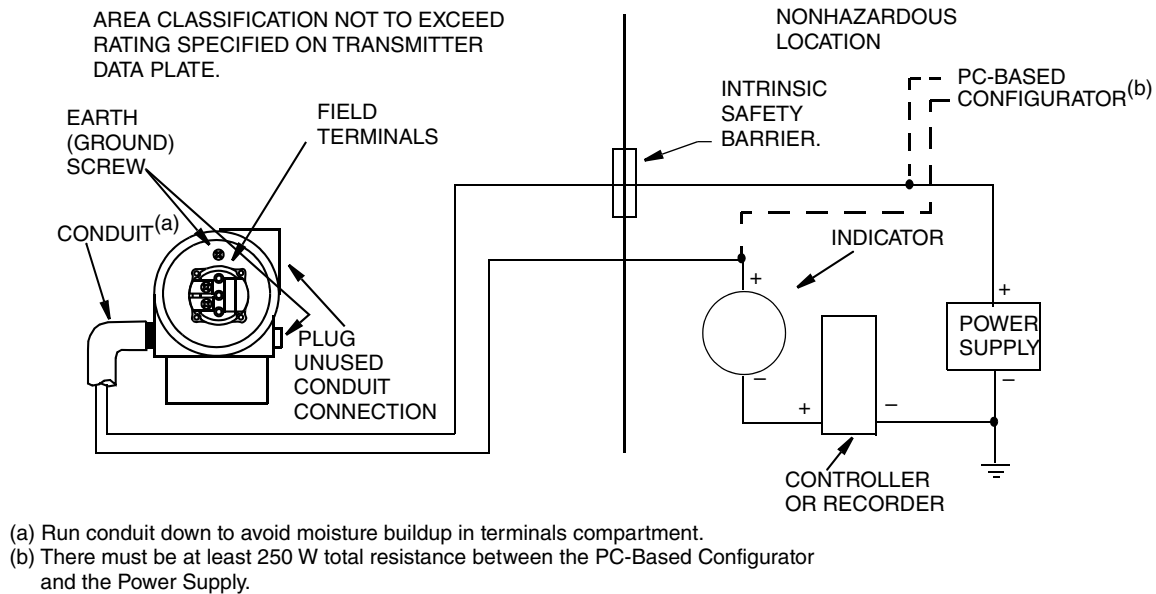

Figure 27. Loop Wiring 4 to 20 mA Output Transmitters
7. Connect receivers (such as controllers, recorders, indicators) in series with power supply and transmitter as shown in Figure 27.
10. The PC-Based Configurator can be connected in the loop between the transmitter and the power supply as shown in Figures 27 and 28. Note that a minimum of 250 Ω must separate the power supply from the PC-Based Configurator.